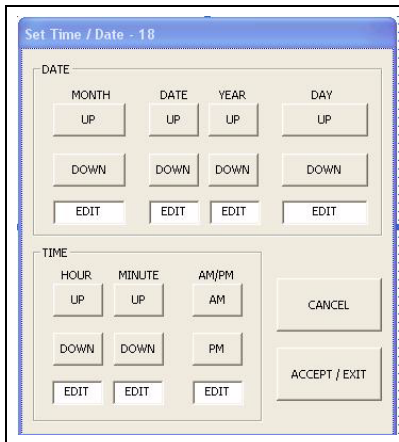

Figure 5W
6. **Set Time/Date:** The  button will display the “Set Time/Date” window. (See Figure 5W.)